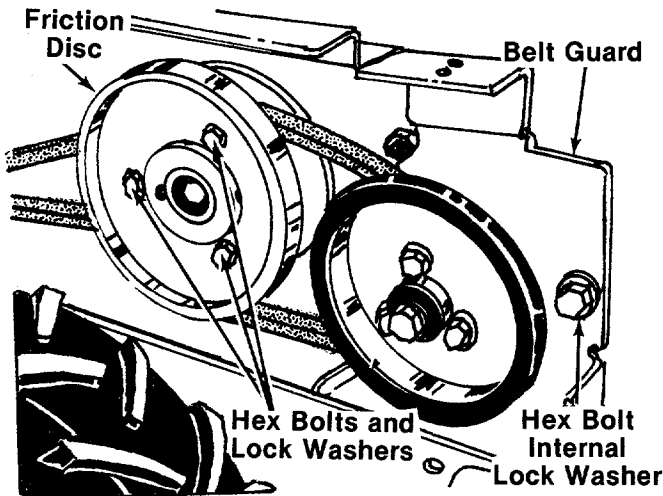

FIGURE 27.
2. Place gear shift lever in neutral position. Hold friction disc with one hand. Remove three hex bolts and lock washers which hold the friction disc to the variable speed pulley. See figure 27. Lift belt off the variable speed pulley.
3. Remove the hex bolt and internal lock washer which holds the belt guard to the engine. See figure 27. Remove the belt guard. Remove and replace the belt.